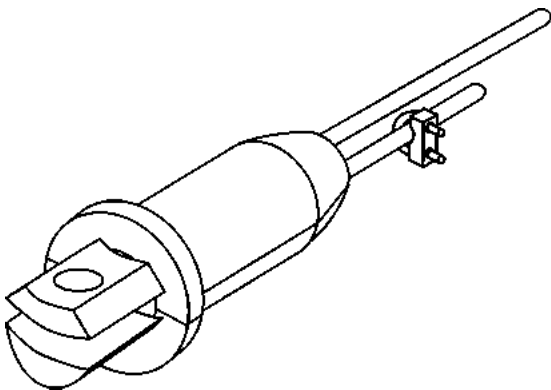

Figure 3 – Wire Rope Grip to Tail
- c. Apply a wire rope grip to the tail (only) of the rope below the socket to prevent dislodgment of the wedge (Figure 3).